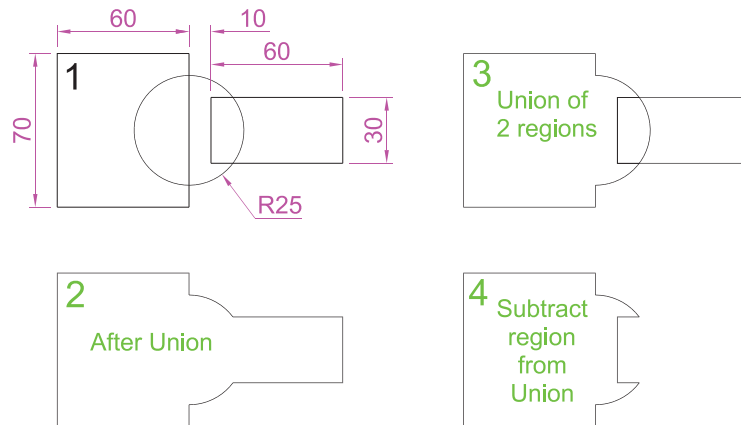

Fig. 12.11 Second example – Union, Subtract and Region
Second example – Union, Subtract regions (Fig. 12.11)
1. In the **ViewCube/Top** view, construct drawing **1** of Fig. 12.11 and with the **Copy** tool (**Home/Modify** panel), copy the drawing three times to produce drawings **2, 3** and **4**.